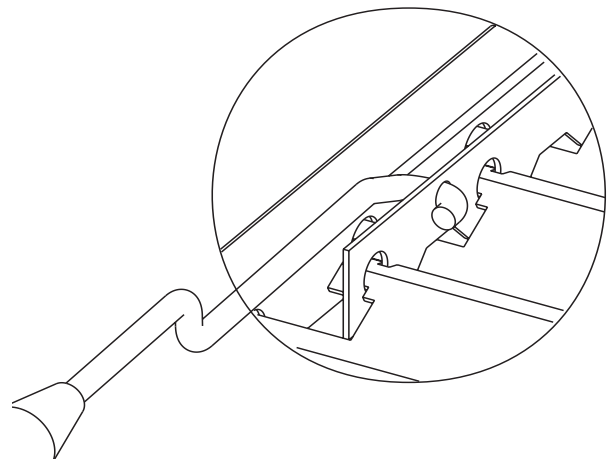

Figure 3
11. Insert hook on either 7 1/2" or 9" actuator rod into 9/32" hole in shutter linkage on left side of smoker shutter. The hook is inserted from the outside to the inside on linkage bar of smoker shutter. Refer to Figure 3.